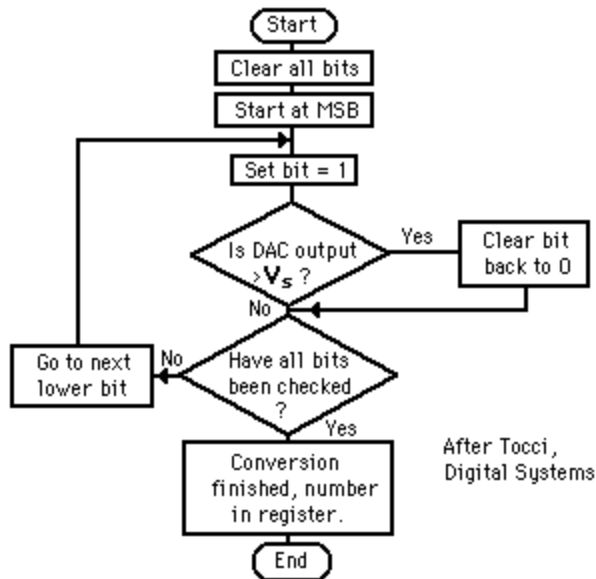

Figure 2 SAR Algorithm
4. The SAR subcircuit, a finite state machine, implements the algorithm defined in Figure 2.